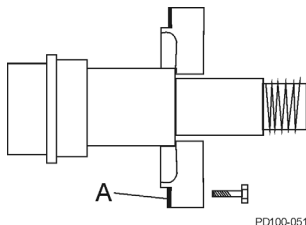

Figure 40 - Remove Sealant from Retainer
- Scrape the silicone sealant (Figure 40, item A) from the bearing retainer and gear case.